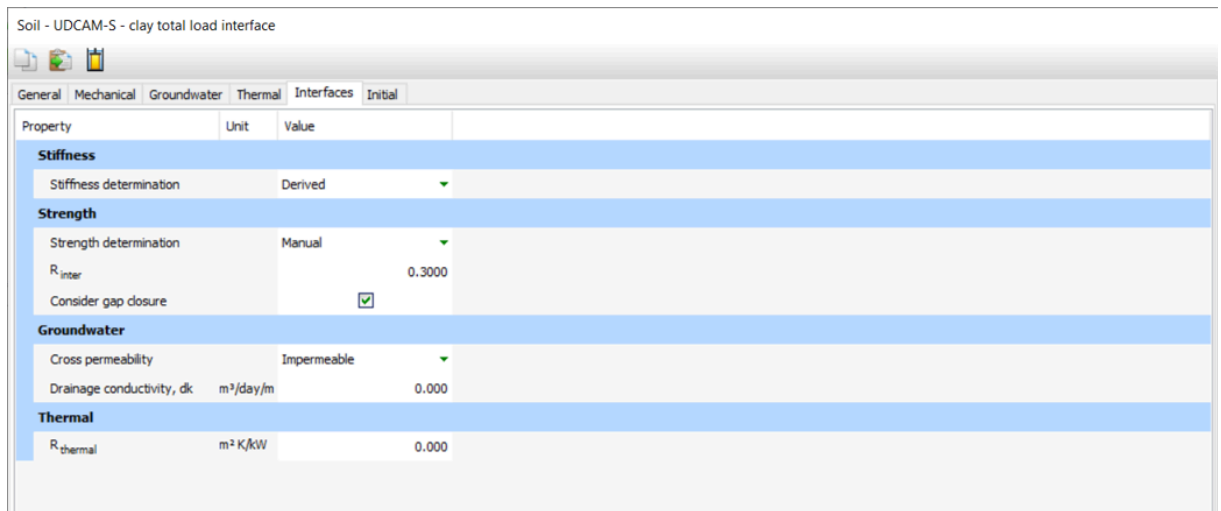

Figure 11-12: Clay-Total load interface
- b. Reduce the interface strength by setting R_{inter} to 0.3 as shown in Figure 11-12 \(p. 186\) and